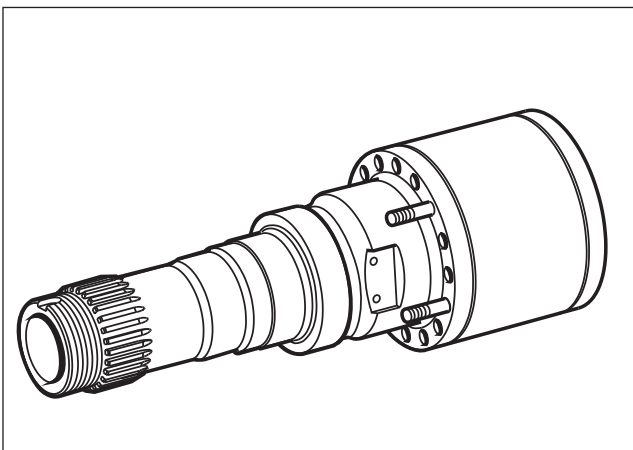

Fig. 3.7
7. Put the wheel end in the position. - Fig. 3.7